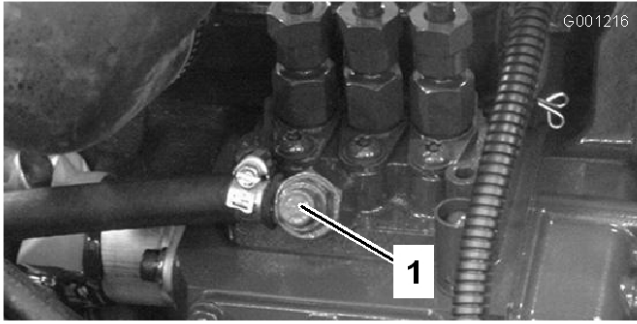

Figure 28
- Open the air bleed screw on the fuel injection pump (Figure 28).